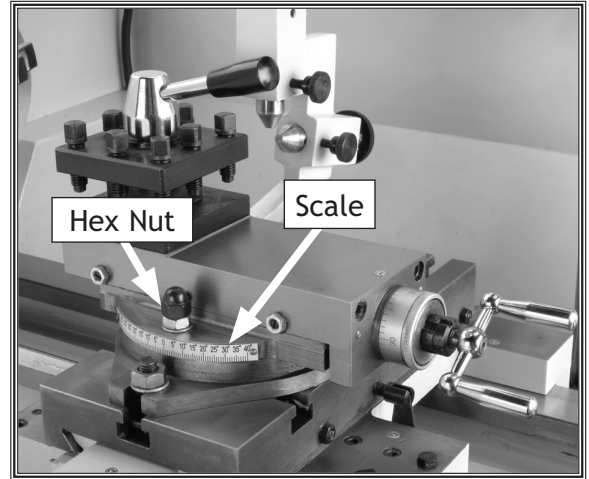

Figure 34. Compound slide, scale, and handwheel.
1. Loosen the hex nuts, one on each side of the compound slide (see **Figure 34**).